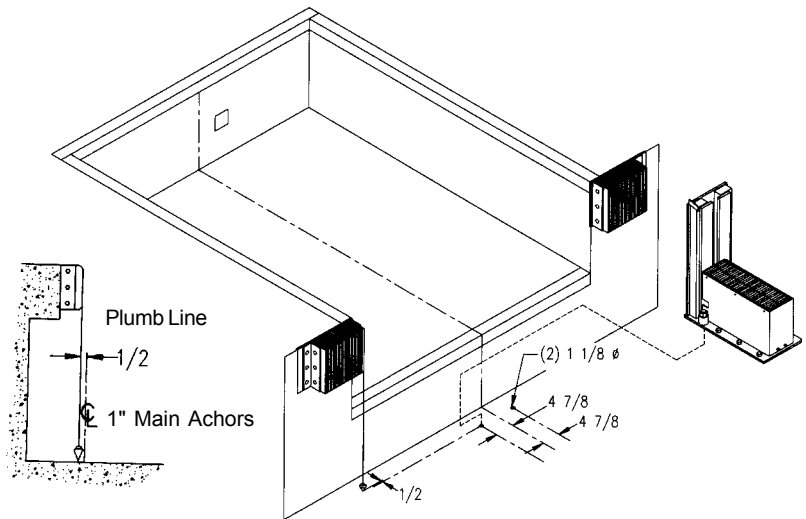

Figure 7
3. Position the Poweramp mechanical truck restraint in the center of the dock/ door opening with the primary (1") anchor holes located 1/2" ahead of the bumper face as shown in Figure 7. After locating and marking the primary anchor locations (qty. 2) on the drive surface, drill 1-1/8" diameter holes 8-8-1/2" deep. If drill breaks through concrete at a depth of less than 6", consult factory. The remaining (6) 3/4" anchor holes can be drilled at this time.